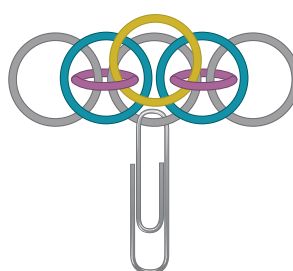

FIG. 3
4. Thread and close a large open (yellow) jump ring through the 2 small (pink) jump rings, securing the large closed (blue) jump rings (**FIG. 3**).